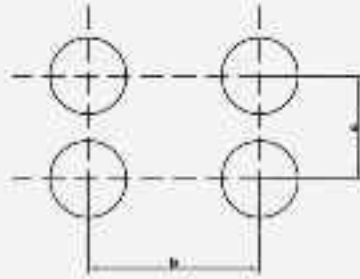

Figure 13
2. See Figure 13 for installation dimensions. The button is required to be installed on a panel with a thickness of 1–6 mm, and the installation aperture is  $22.3^{+0.4}$ .